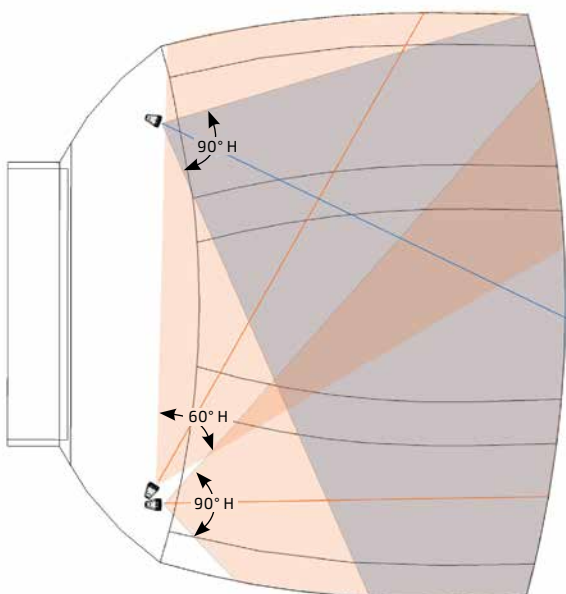

Figure 2. Coverage of single vs dual loudspeakers per side
**Figure 2:** The dual coverage (light orange) offers a more complete coverage of the full seating area. The single loudspeaker (grey) misses the outside front and front middle of the congregational seating.